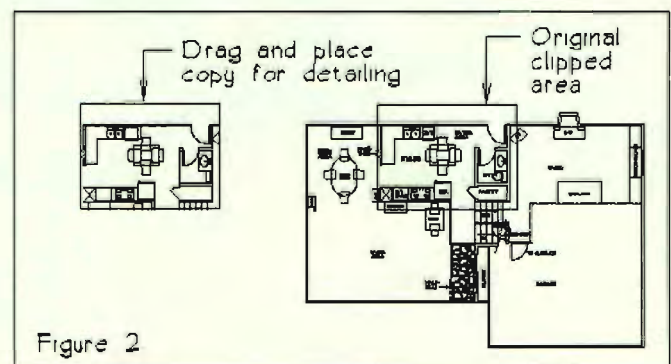

Figure 2
12. Move your cursor (and attached rectangle) to a clean area of your drawing, as shown in Figure 2. Pick to place your copy. You can continue to place additional copies if you wish.